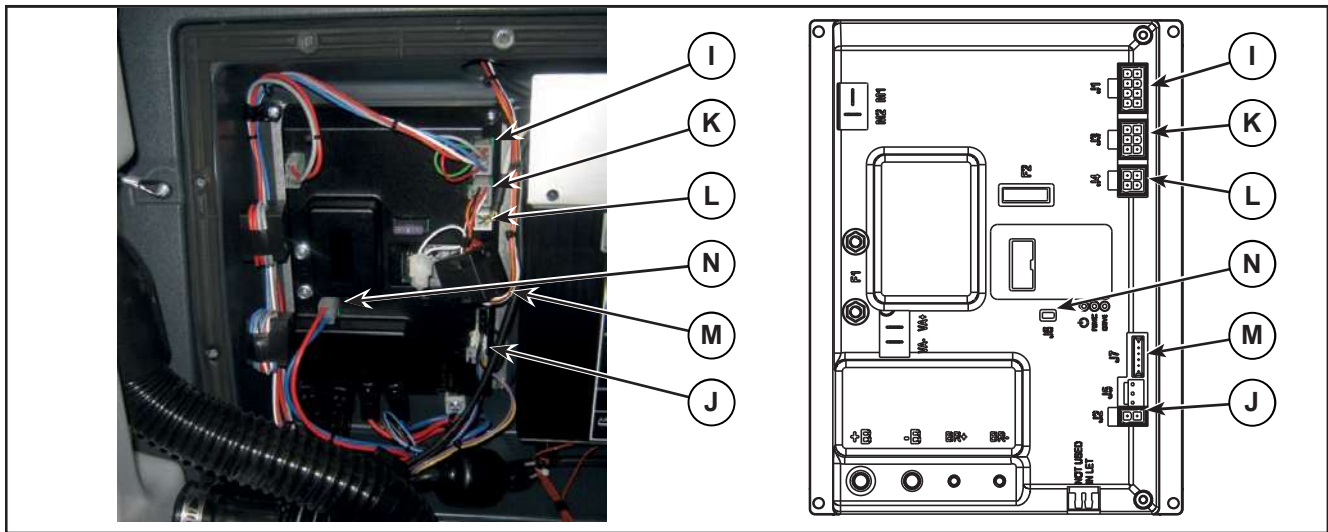

Figure 13:
6. Disconnect the following connections sequentially (Figure 13):
- (I) Deck actuator and detergent pump connection (J1).
- (J) Solenoid valve connection (J2).
- (K) Display controller connection (J3).
- (L) Battery charger connection (J4).
- (M) Detergent level sensor connection (J5).
- (N) Connection (J6).